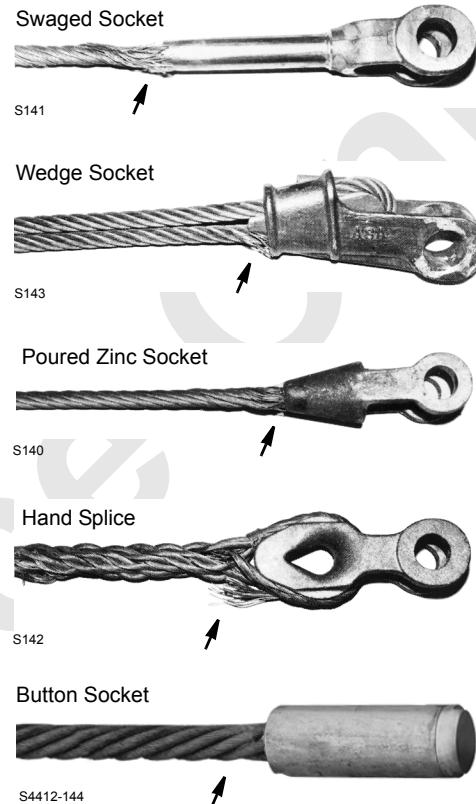

FIGURE 5-24
- **Standing Ropes** (pendants) — more than two broken wires in one lay length in sections beyond the end attachment, or more than one broken wire at the end attachment (Figure 5-24).